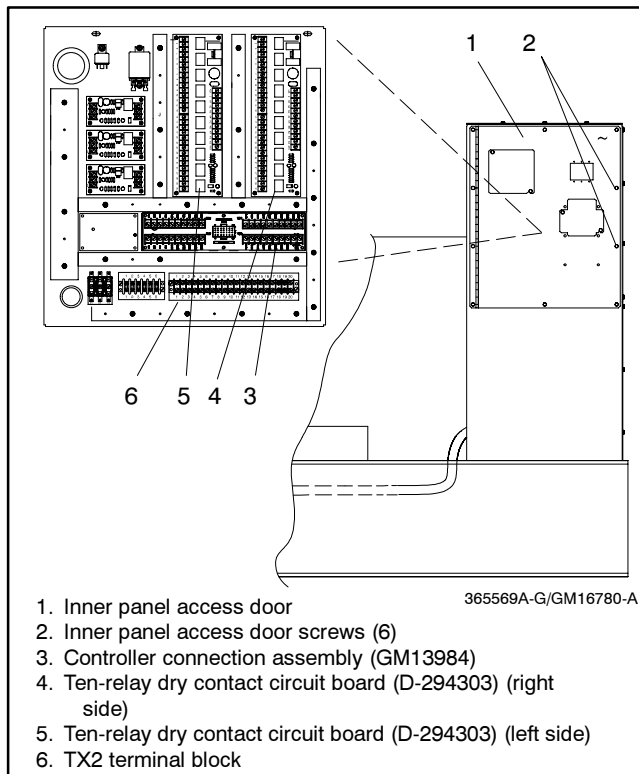

Figure 2 Terminal Block Bracket Mounting in Junction Box (450-2000 kW)
- 2.1.3 Attach the controller connection assembly (GM13984) to the junction box bracket studs using six spacers (X-712-9) and nuts (X-70-12). Place the spacers between the controller connection assembly and the mounting bracket. See Figure 2 for the mounting location.
3.1 Attach the TX2 terminal block (273769) and strip marker (279271) to the junction box bracket using two screws (X-49-6) and whiz nuts (X-6210-3). See Figure 2 for the mounting location.
- 4.1 Mount the two ten-relay dry contact circuit boards (D-294303) to the junction box bracket studs using 12 spacers (X-712-9) and nuts (X-70-12). Place the spacers between the ten-relay dry contact circuit board and the mounting bracket. See Figure 2 for the mounting location.